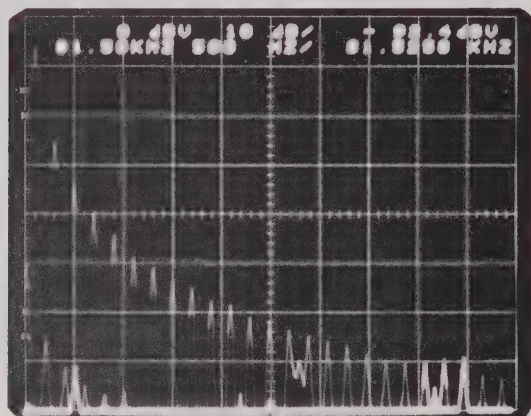

Fig. 4-12a The Use of Background Displacement; No Background Displacement
- a. Rotate RESOLUTION to 25 Hz (5 KHz SPAN). Move STARTING FREQUENCY to 81.5 KHz. The display will appear as in Fig. 4-12a. There is some interference between the foreground and the background.